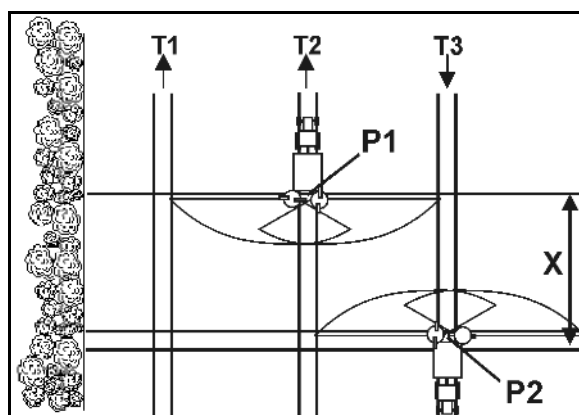

Fig. 89
- Open the slide gate after entering the tramline at point P1 (Fig. 89), when the spreader discs are at distance X from the tramline of the headland.
- Close the slide gate before leaving the tramline at point P2 (Fig. 89), when the spreader discs are located at the level of the first tramline of the headland.